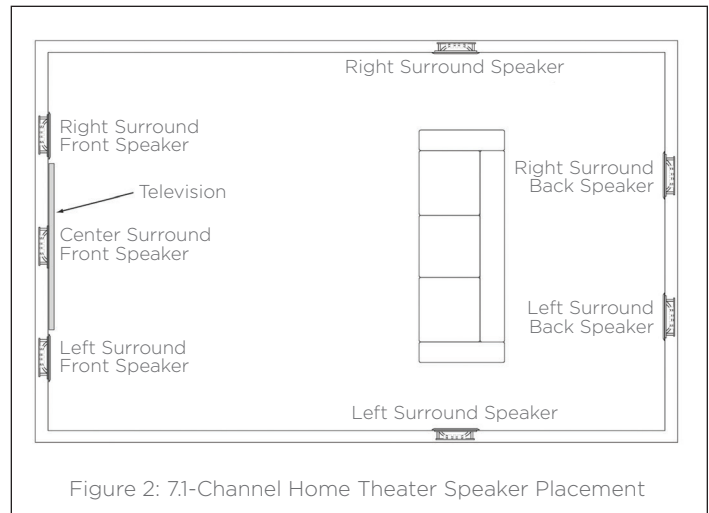

Figure 2: 7.1-Channel Home Theater Speaker Placement
- Surround back speakers: Place the surround back speakers in the rear wall, 3 - 6 feet (0.9 - 1.8m) apart and at 5 - 7 feet (1.5 - 2.1m) from the floor (see Figure 2).